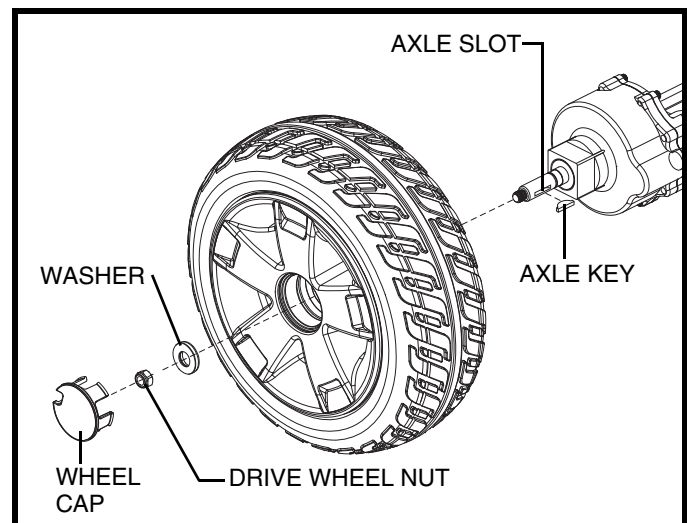

Figure 25. Solid Tyre Wheel Removal
3. Remove the wheel cap, drive wheel nut, and washer from the axle. See **figure 25**.